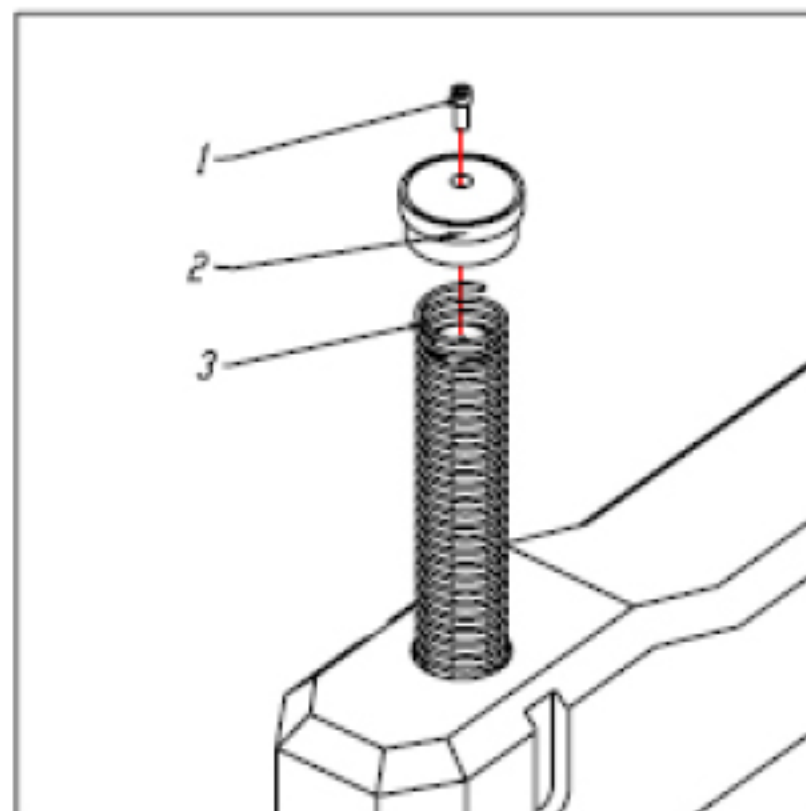

Figure 2-3
2.3 Spring Installation (figure 2-3)